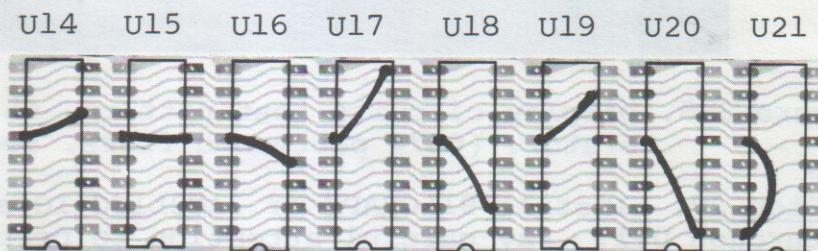

Figure 3-7. U14 through U21 socket jumpers.
- (✓) Using #24 wire, install the following TEMPORARY jumpers in the sockets for U14 through U21. Double check jumpers after installing for correctness. (See Figure 3-7.)